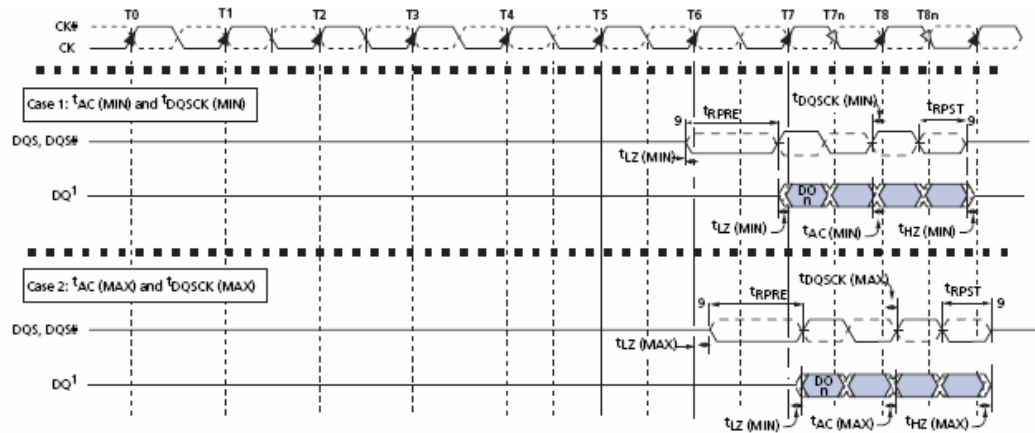

Figure 46 DQ Low-Impedance Time from CK/CK#
NOTE 18: tHZ and tLZ transitions occurs in the same access time as valid data transitions. These parameters are referenced to a specific voltage level which specifies when the device output is no longer driving (tHZ), or begin driving (tLZ). Figure 46 shows a method to calculate the point when device is no longer driving (tHZ), or begins driving (tLZ) by measuring the signal at two different voltages. The actual voltage measurement points are not critical as long as the calculation is consistent. tLZ(DQ) refers to tLZ of the DQ's and tLZ(DQS) refers to tLZ of the (U/L/R) DQS each treated as single-ended signal.